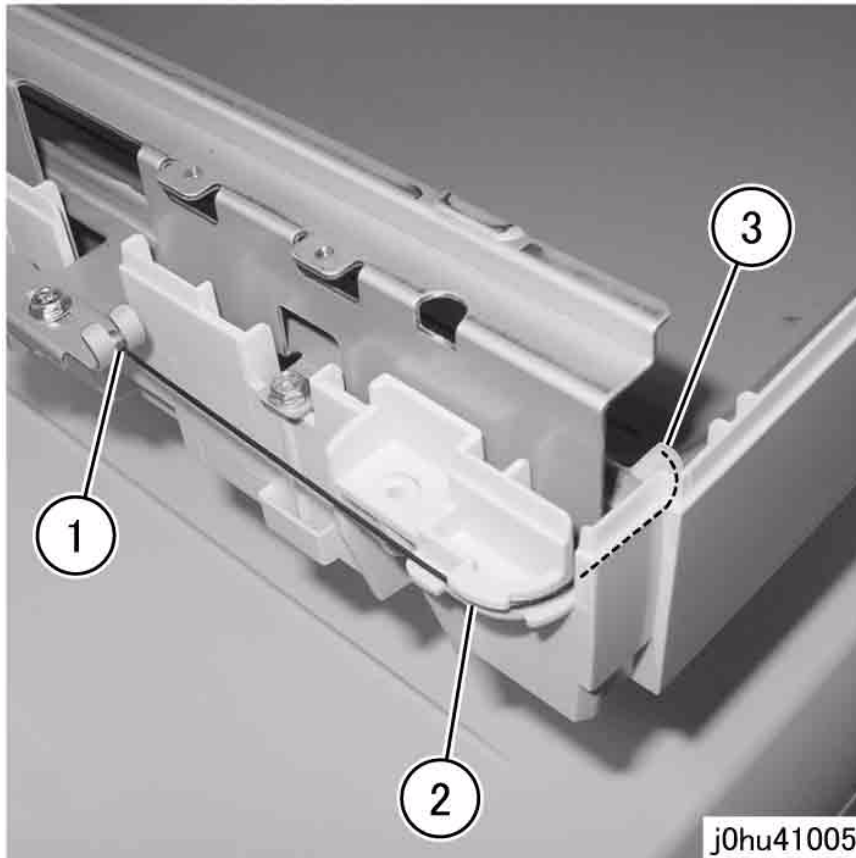

Figure 5 Disconnect Black Carriage Cable
7. While maintaining tension on the Carriage Cable (black) at the front right side, disconnect it (Figure 5).